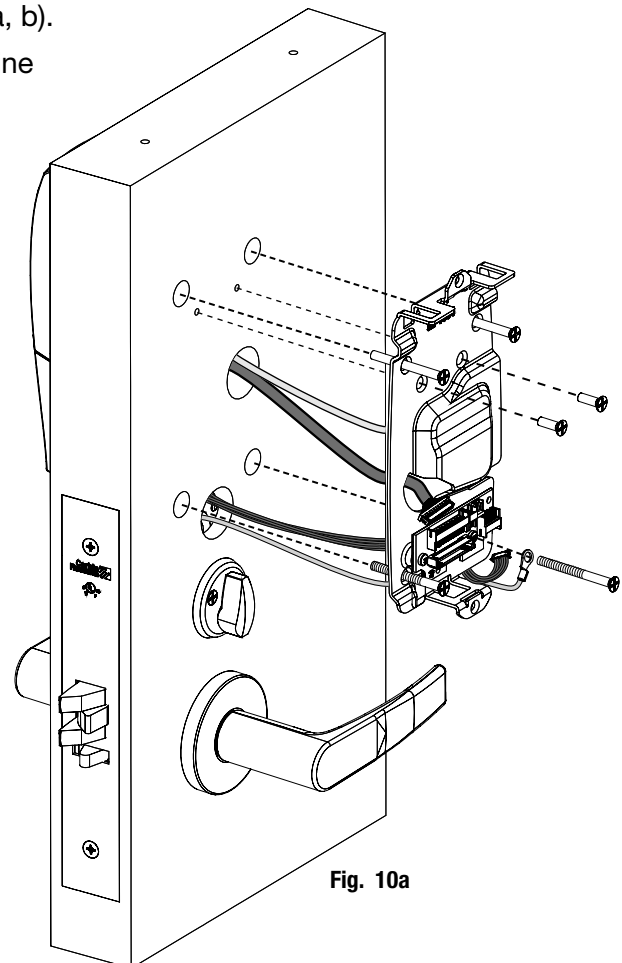

Fig. 10a
2. On the inside of the door, position the mounting plate over the indicated holes (Fig. 10a).
3. Feed reader cable through central opening of mounting plate (Fig. 10a).
Lockbody cable feeds from bottom (Fig. 10a, b).
Ensure ground lug is positioned upright (Fig. 10a, b).